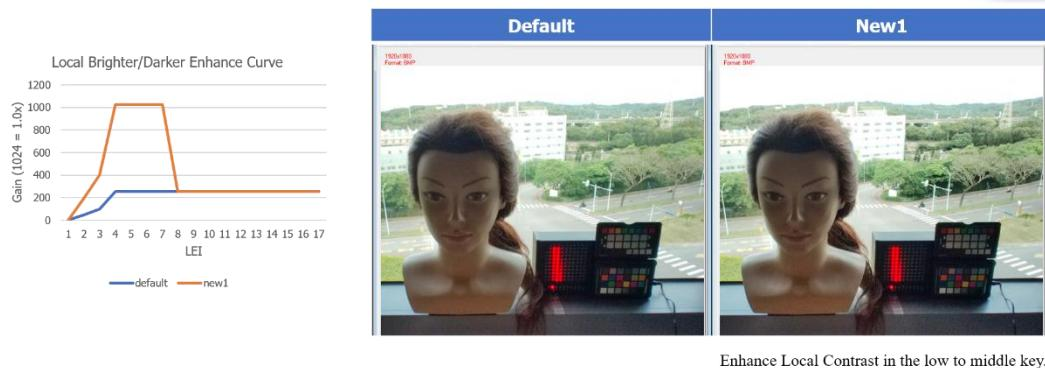

Fig. 5-147 Local Brighter/Darker Enhance Curve
- Increase enhancement gain to make local bright/dark area brighter/darker, to enhance local contrast. (Fig. 5-147)